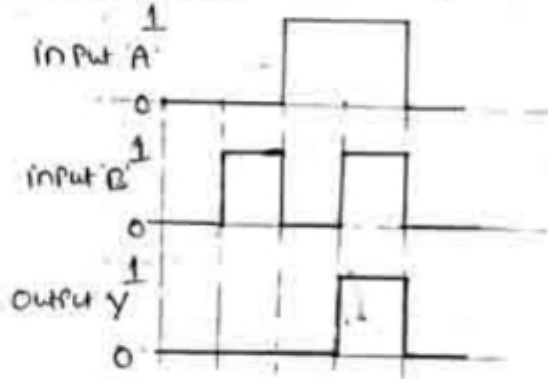

Fig 5
* The input & output waveforms of a AND gate is shown in fig 5